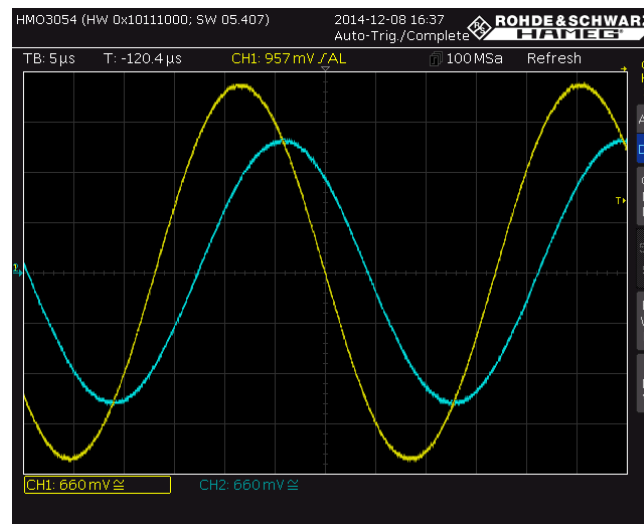

Fig. 2-41: Display of u_{in} (CH1, yellow) and u_{out} (CH2, blue) at the lowpass cutoff frequency.
- Press the *Quick View* key to switch off the Quick View function. Fig. 2-41 shows the attenuation and the phase response of the output voltage at the cutoff frequency.